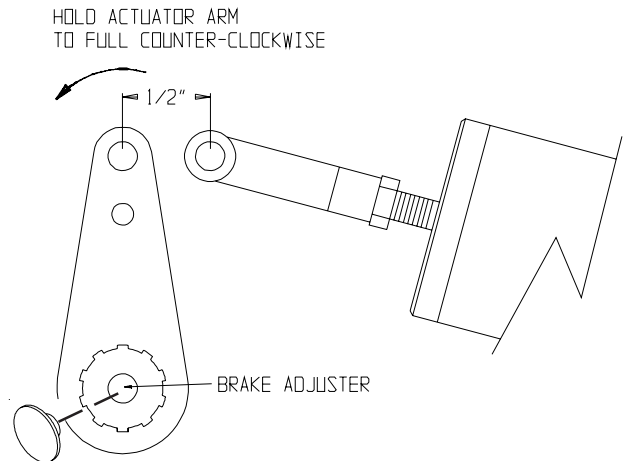

Figure 5-2. Plug Removal and Replacement
10. Remove plastic plug located on the end of the caliper shaft. See Figure 5-2.